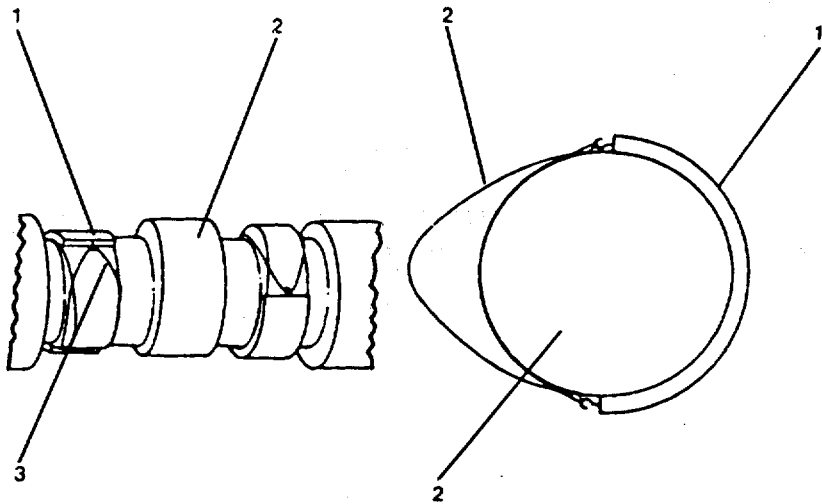
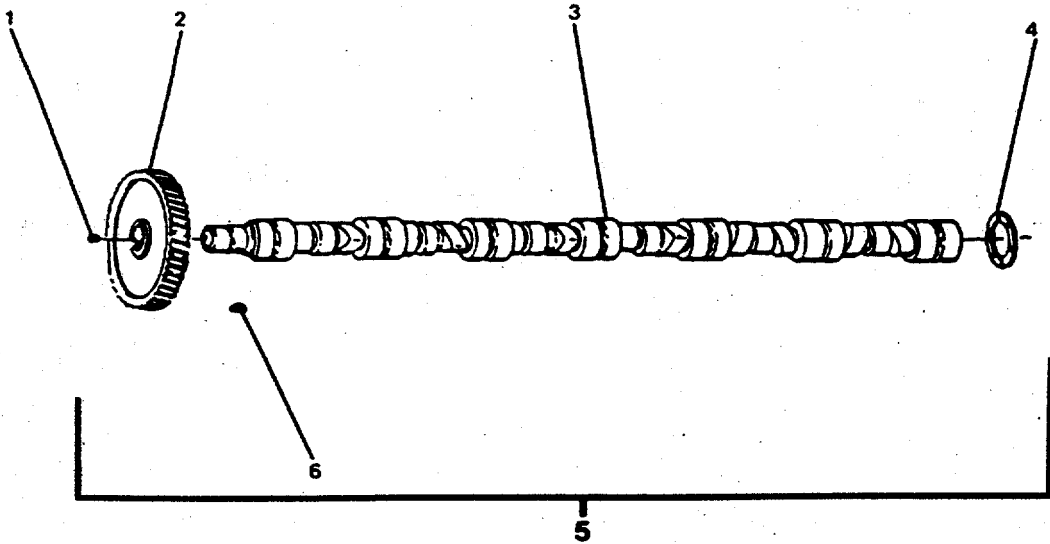

FIGURE 3-69.  Holding Camshaft Pilots in Place.
FIGURE 3-70.  Camshaft Group.
- a. Install four camshaft pilots (1, FIGURE 3-69) over the outer base circle of the valve lobes between the camshaft journals (FIGURE 3-69).
- b. Use a rubber band (3) to hold the installation pilots (1) in place. The rubber band must straddle the valve lobe (FIGURE 3-69).
- c. Use one hand to slowly rotate and pull the camshaft (2) from the cylinder block and the other hand to balance the camshaft (2) as it is removed.
- d. Remove the camshaft thrust bearing (4, FIGURE 3-70) from the camshaft.
- a. Apply a film of Lubriplate 105 or its equivalent to both sides of the camshaft thrust bearing (4, FIGURE 3-70).
- b. Install the thrust bearing (4) on the camshaft (3).
- c. Install four camshaft pilots (1) over the outer base circle of the valve lobes between the camshaft journals (FIGURE 3-69).
- d. Use a rubber band (3) to hold the installation pilots (1) in place. The rubber band (3) must straddle the valve lobes.
- g. Align the "O" mark on the camshaft gear with the "O" mark on the crankshaft gear (FIGURE 3-70).
- i. Remove the camshaft installation pilots (1, FIGURE 3-69).